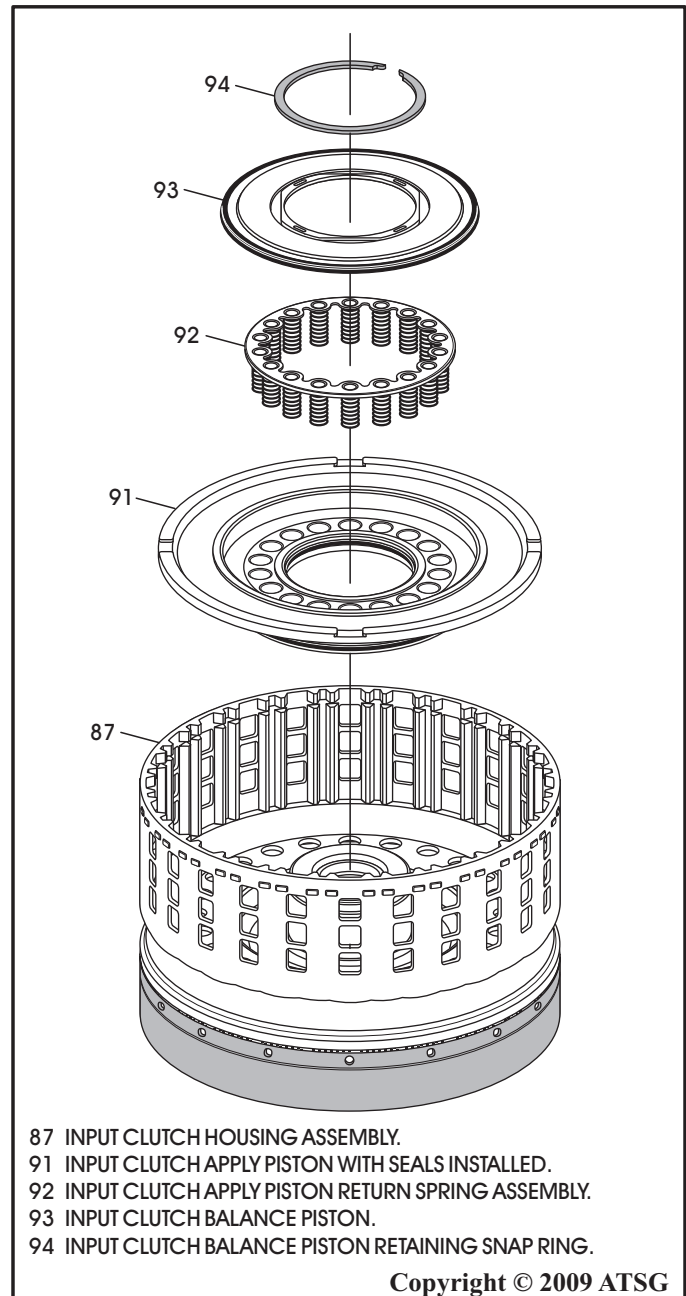

Figure 99
6. Install input clutch piston into input housing, as shown in Figure 99.
7. Install return spring assembly into input clutch piston, as shown in Figure 99.
8. Lubricate and install the input clutch balance piston, as shown in Figure 99.
9. Compress balance piston and install snap ring, as shown in Figure 99, and ensure it is fully seated.